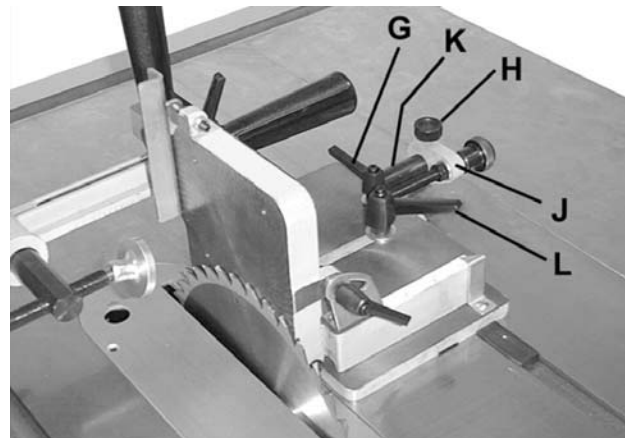

Figure 4
6. Loosen locking handle (G, Fig. 4). Loosen thumbscrew (H) and move bracket (J) to the back edge of the guide rod (K). The guide bushing should move out with the bracket. If the guide bushing does not move lubricate with a light oil. Tighten locking handle (G), and thumb screw (H).
7. To bring the fence into parallel with the saw blade, loosen both locking handles (G, L). See Figure 4. Reposition the jig so that the fence lies flat against the saw blade and tighten both locking handles.
8. The miter bar slots in the base are milled to be parallel to the fence. If an adjustment is necessary, loosen the two hex socket head screws (A) holding the guide rod to the base, as shown in Figure 5. Place the jig back into the miter slot. Loosen locking handle (L Figure 4) and make the needed adjustment. When adjustment is finished, tighten the handle and remove the jig, and fully tighten the screws under the guide rod. Place the jig back on the saw with the miter bar in the miter slot.
9. Loosen both locking handles (G & L, Fig. 4), and back off jig so that the fence is approximately 1/8" away from the saw blade and tighten both locking handles (G & L).